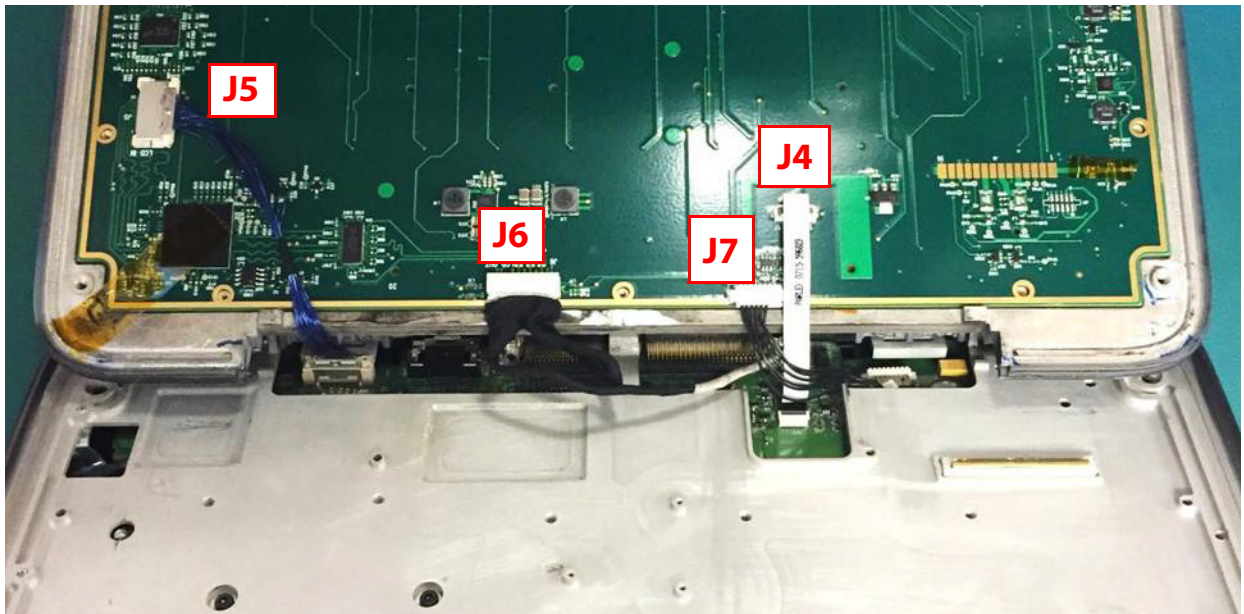

Figure 6.6 Control Panel Removal
- 7 Expose the underside of the Control Panel by lifting from under the front edge and hinge via the top edge toward the LCD display per Figure 6.6.
- 4 Connect the J6 "LCD OUT", J5 "LCD IN", and J7 "BL IN" cables as shown in Figure 6.6.